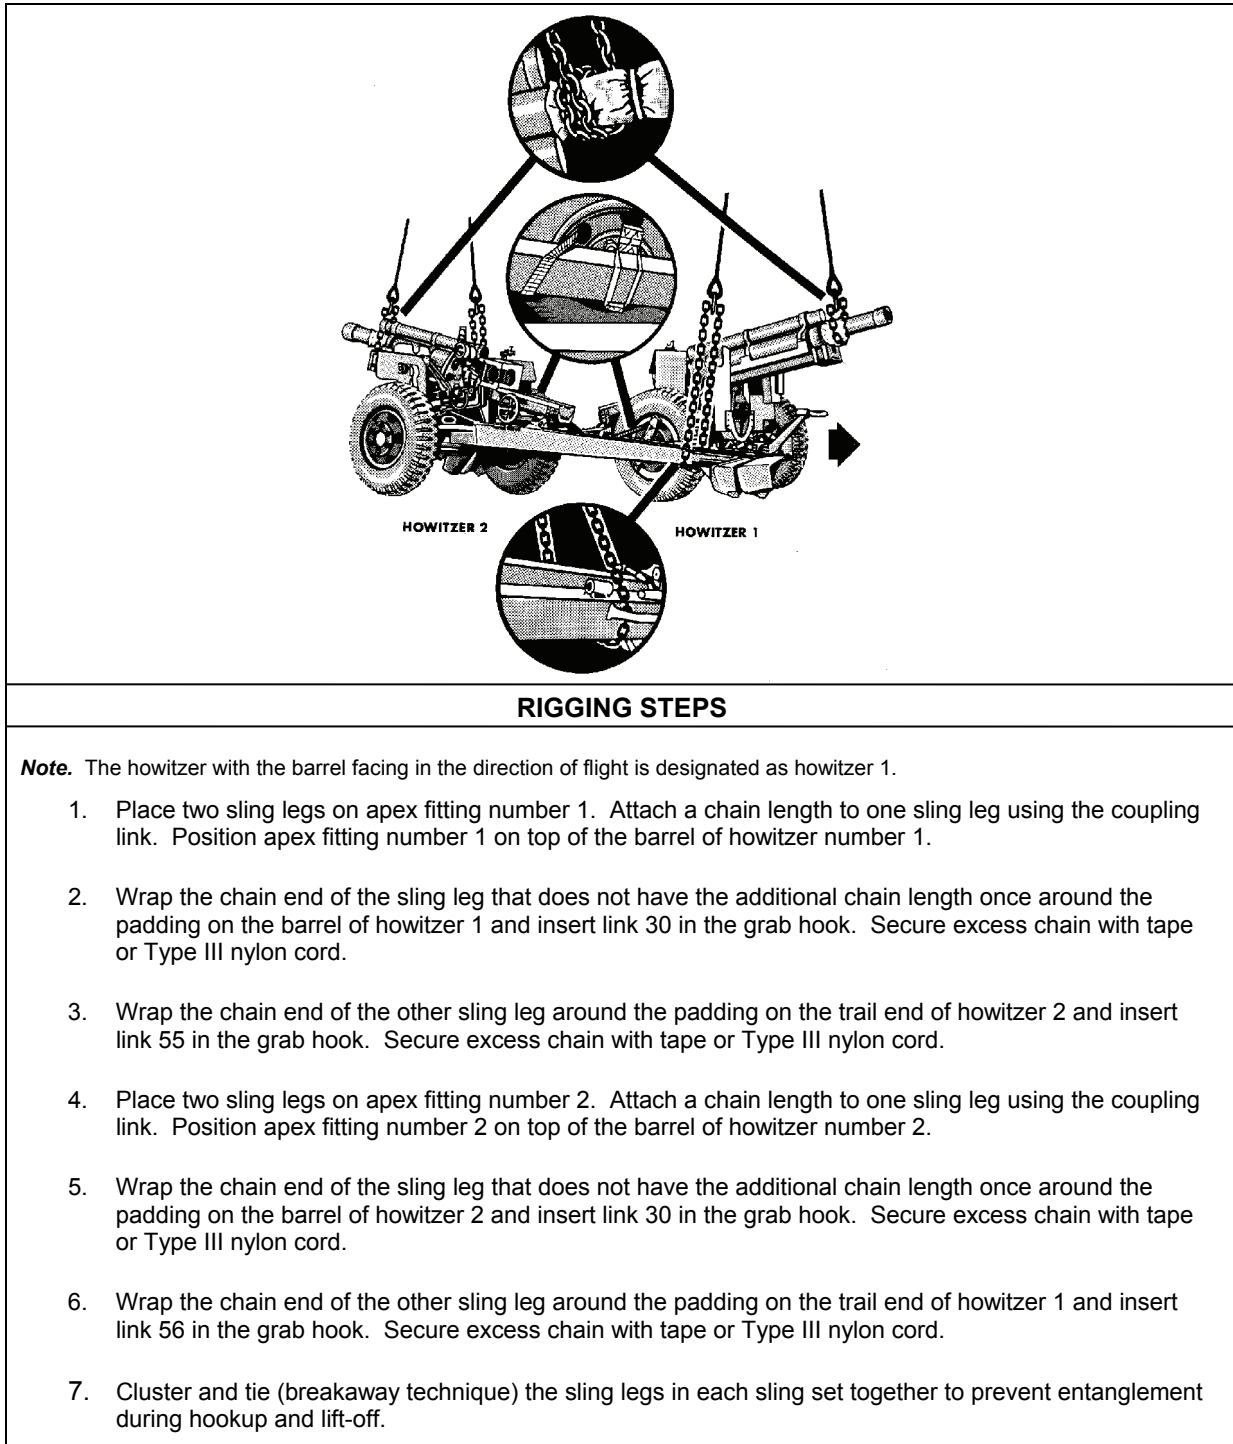

Figure 6-2. Two M101A1 Howitzers, Side by Side
- **Rigging.** Rig the load according to the steps in Figure 6-2.